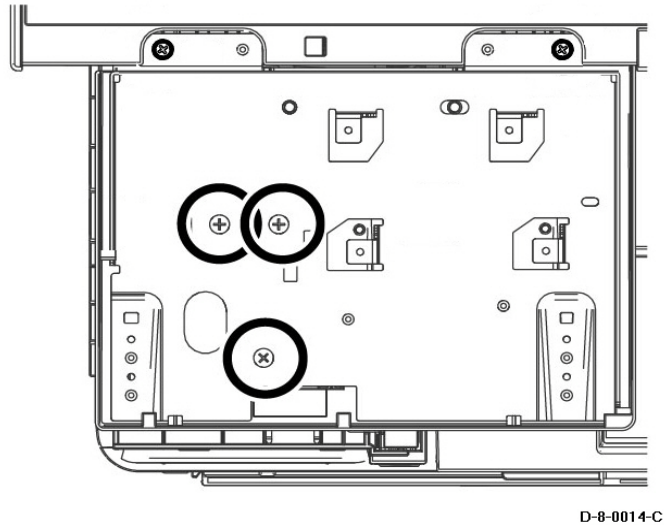

Figure 2 UI frame inner cover screws
- Remove three screws, then remove the UI frame inner cover, PL 1.1 Item 3, Figure 2.